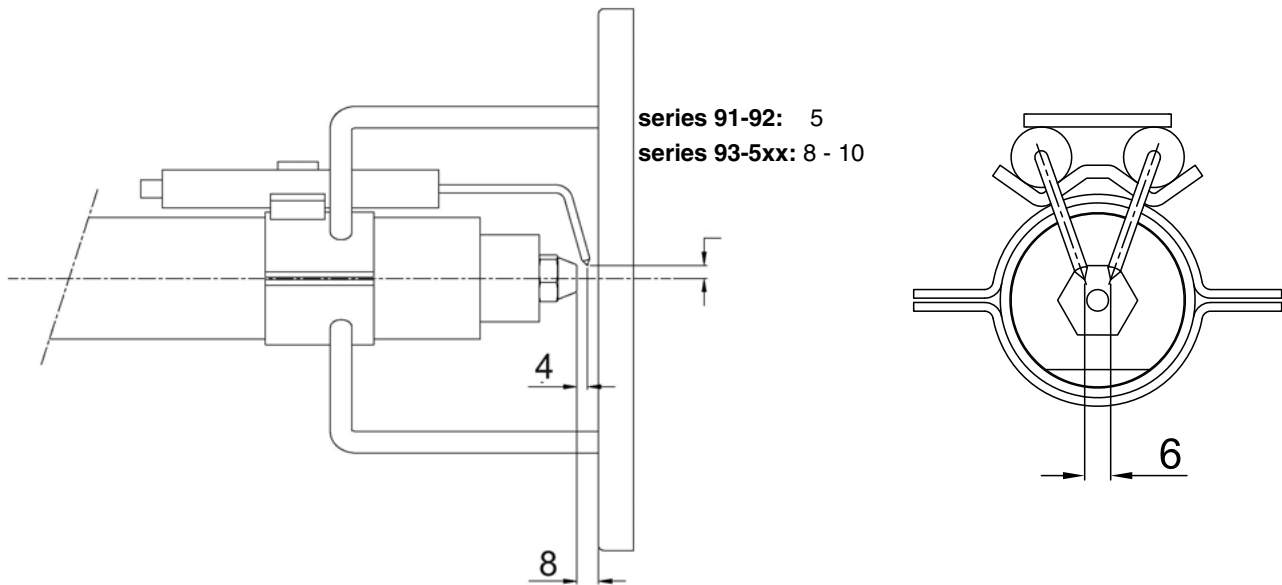

Fig. 29
- 4 loose screw (B) that fasten the ignition electrodes;
- 5 remove the electrodes and replace them, referring to the values quoted on Fig. 29.